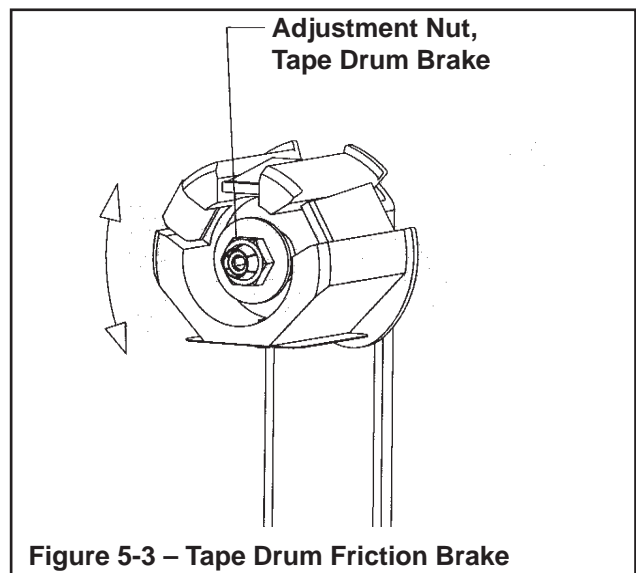

Figure 5-3 – Tape Drum Friction Brake
**Note** – To set up 72mm tape drum for 48mm tape, disassemble tape drum from bracket and install lock nut between tape drum and bracket as shown in inset, **Figure 5-3**.
### Tape Drum Friction Brake – Figure 5-3